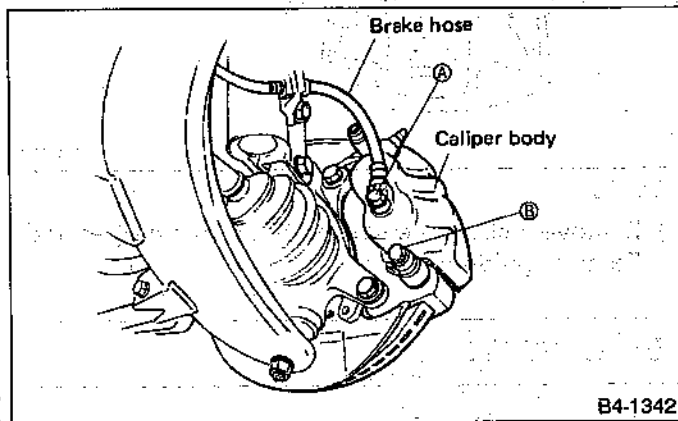

Fig. 68
- 1) Remove union bolt (shown by A in Figure 68), and disconnect brake hose from caliper body ASSY.
- 2) Loosen lock pin (shown by B in Figure 68).